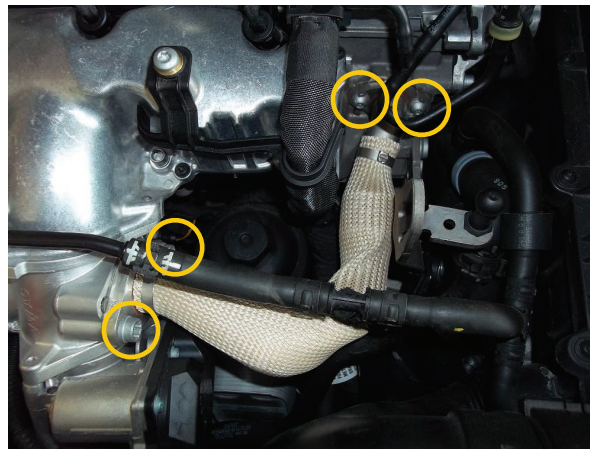

Figure 1
3. Remove the four EGR inlet pipe bolts (Figure 1). Remove EGR inlet pipe and gaskets.